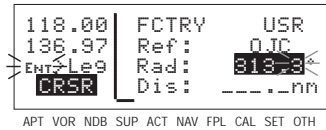

Figure 5-35
9. Use the right inner and outer knobs to select the desired radial. Notice that you may enter the angle down to the tenth of a degree (figure 5-35).